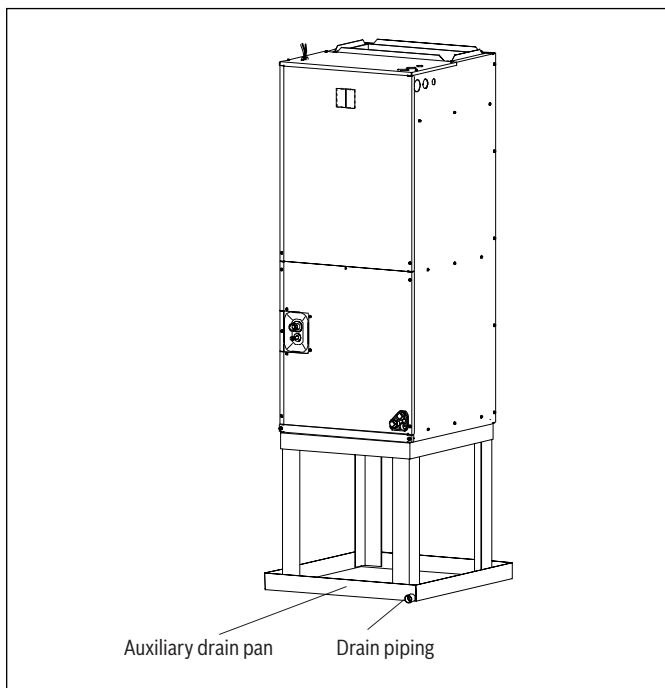
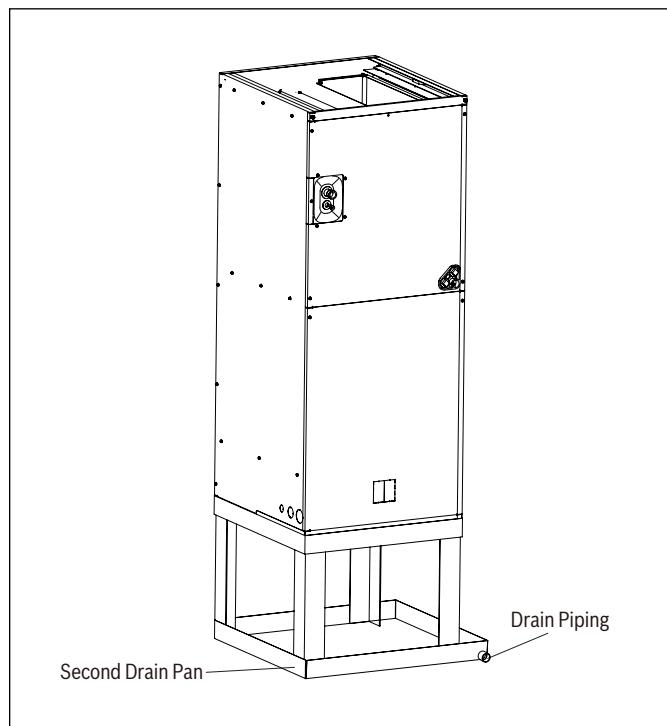

Figure 3 Installed vertical upflow
Figure 6 Installed vertical downflow
Condensation may come from the surface of the insulation. Be sure to use insulation that is designed for use with HVAC Systems. Condensation may be produced on surface during cooling operation. It is also recommended to use auxiliary drain pan and secure the unit firmly to prevent it from falling. See Figure 3 to Figure 6.
- Vertical Upflow configuration is the factory default on all models (see Figure 3).